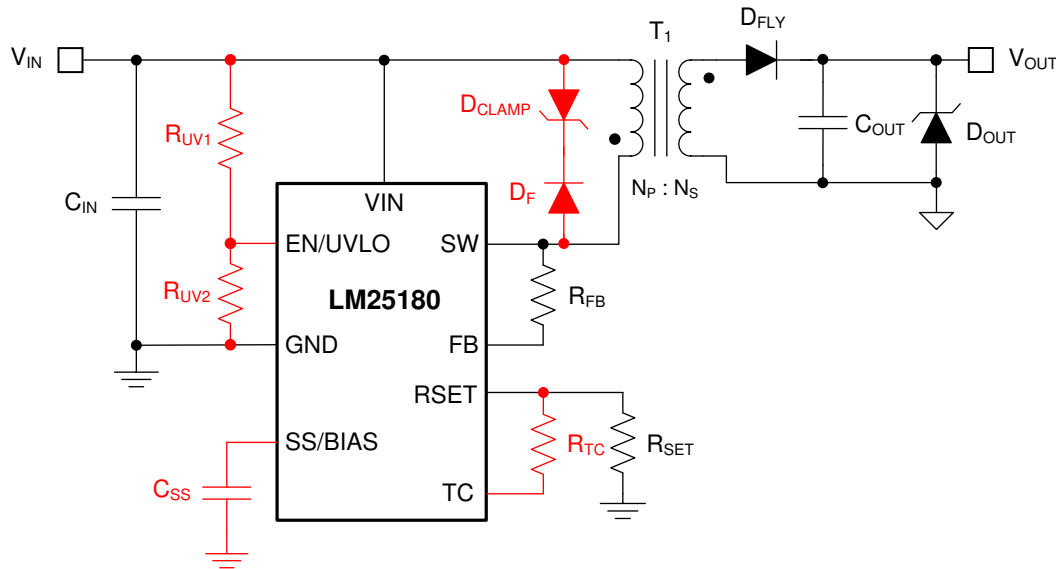

图 19. LM25180-Q1 Flyback Converter Schematic (Optional Components in Red)
Figure 19 shows a typical schematic of the LM25180-Q1 PSR flyback circuit. Components denoted in red are optional depending on the application requirements.
To minimize output voltage regulation error, the LM25180-Q1 senses the reflected secondary voltage when the secondary current reaches zero. The feedback (FB) resistor, which is connected between SW and FB as shown in 图 19, is determined using 公式 8, where  $R_{\text{SET}}$  is nominally 12.1 k $\Omega$ .